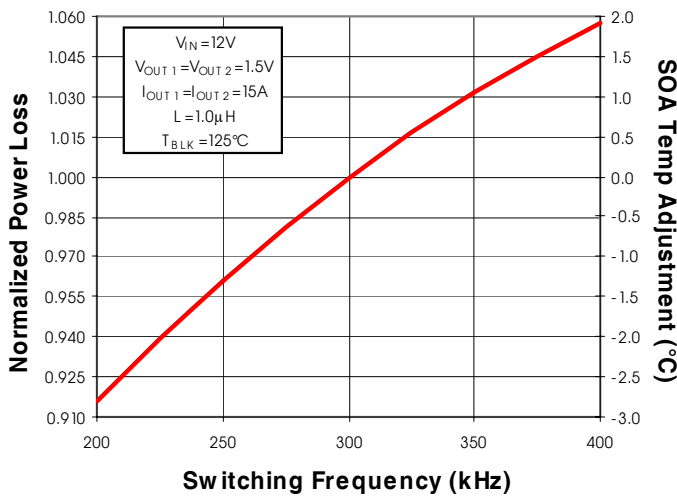

Fig. 6: Normalized Power Loss vs. Frequency
(Fig. 6) Normalized power loss for frequency ≈ 1.0
- (Fig. 6) Normalized power loss for frequency  $\approx 1.0$
- (Fig. 6) Normalized SOA Temperature for frequency  $\approx 0^{\circ}C$